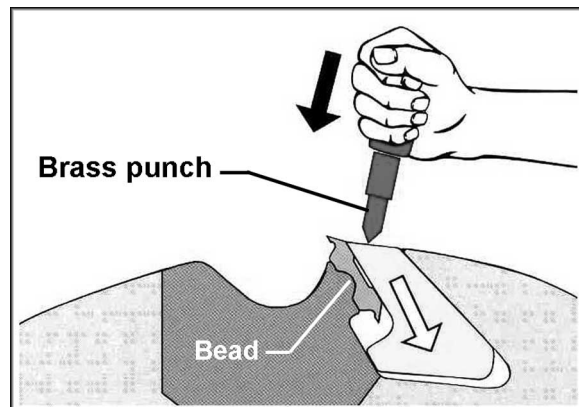

Figure 8
4. Rotate the cutterhead to gain access to a knife. Use the provided brass punch to gently tap down the segmented gibs, as shown in Figure 8. This will release the knife.
6. To install a new knife (or the same knife reversed for a new edge), insert it through the hole. Make sure the knife is properly seated upon the bead (Figure 8) and the ends are not protruding past the ends of the cutterhead. When the machine is started later, the gibs will automatically secure the knife in place.